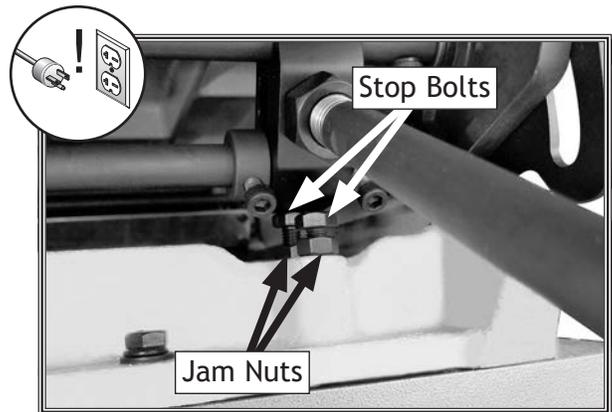

Figure 37. Location of outfeed table stop bolts and jam nuts.
3. Loosen outfeed table lock located at front of machine, and loosen jam nuts and stop bolts located under outfeed table (see **Figure 37**).